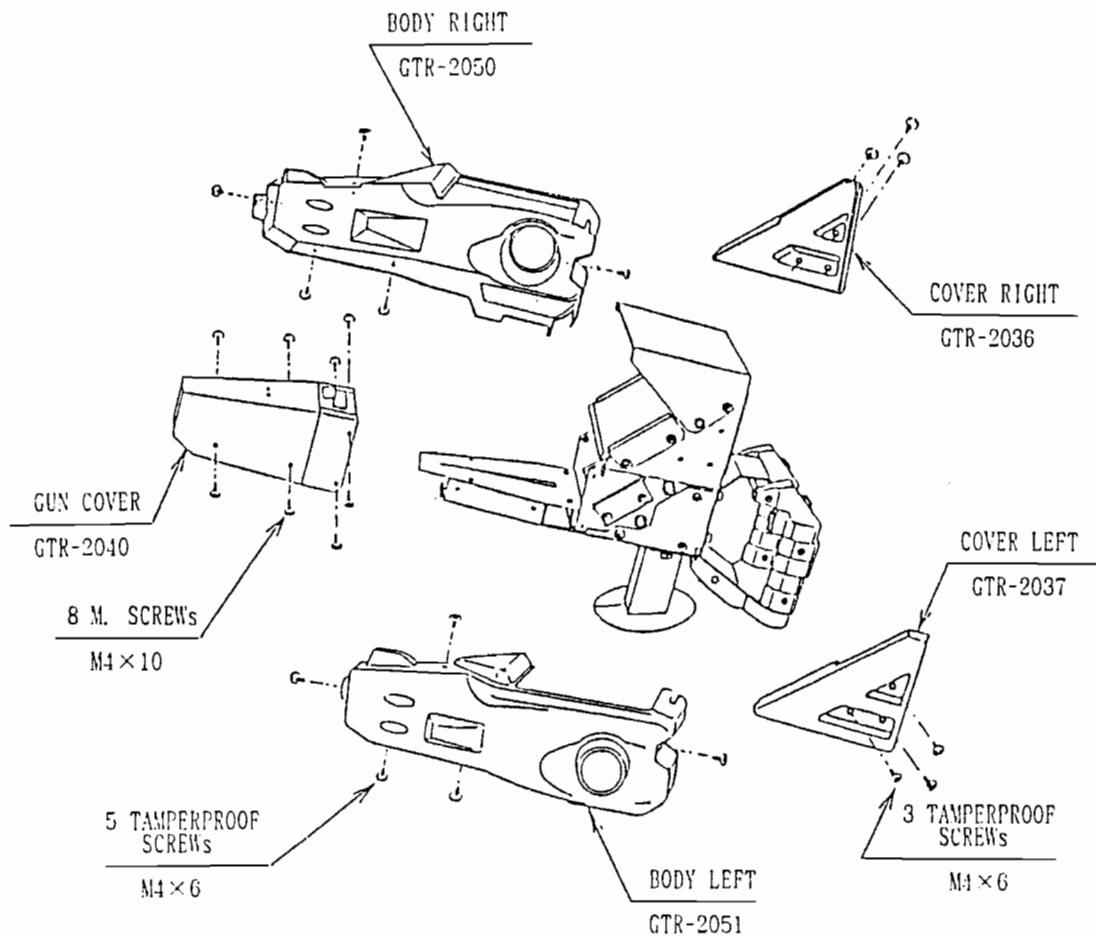

FIG. 1
- ① Take off the 16 TAMPERPROOF SCREWS ( $M4 \times 6$ ) for both sides; and remove the BODY RIGHT/LEFT and COVER RIGHT/LEFT.
- ② Take off the 4 machine screws and remove the gun cover to have the LED BOARD appear (see FIG. 1).